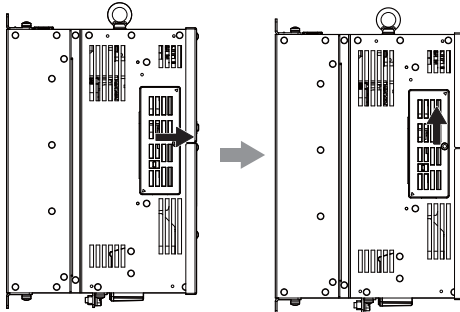

Figure 12 Slide the Connector Cover
2. Slide the connector cover as shown in Figure 12.